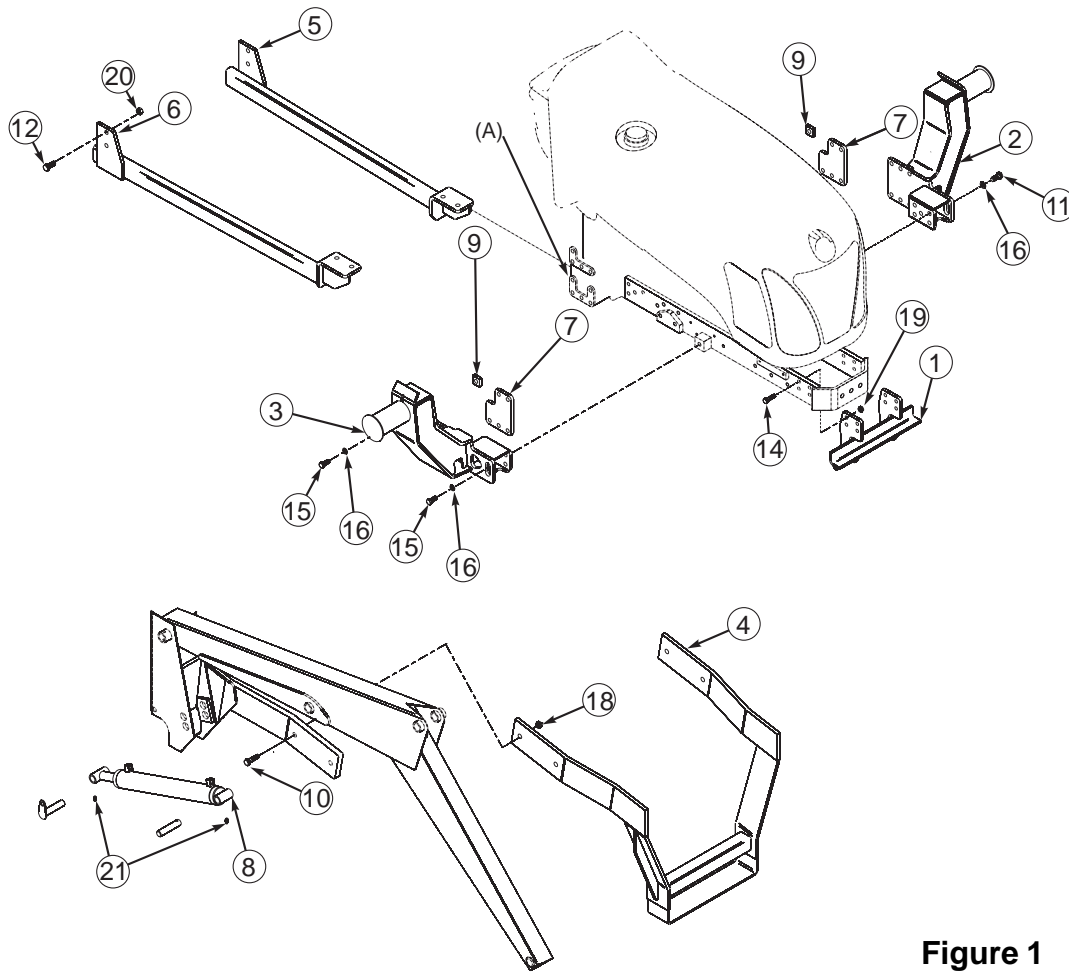

Figure 1
## INSTALLING LEFT AND RIGHT MIDMOUNTING BRACKETS AND FRONT MOUNT BRACKET (FIGURE 1)
1. Install front mounting bracket (1) to sides of tractor front frame using 1/2" x 1-3/4" cap screws (12), and 1/2" locknuts (13).
**NOTE:** Use 1/2" x 3-1/4" cap screws (13), instead of 1/2" x 1-3/4" cap screws (14), if grille guard is installed.
2. Remove lower 16MM cap screw securing oil line bracket (A) to mounting pad on right side of tractor. (Figure 1)
**NOTE:** If tractor is equipped with New Holland loader valve, small spacer (7) is not used for right mid mounting bracket (3). Oil line bracket sandwiches to inside of right mid mounting bracket (3), taking place of spacer. Lower 16MM bolt must be removed before installing mid mounting bracket (3).
3. Raise right mid mounting bracket (3) with overhead hoist. With valve bracket or spacer (7) sandwiched between, fasten right mid mounting bracket (3) to tractor casting using 16MM x 60MM cap screws (15) and 5/8" lock washers (16) in rear four holes and 5/8" x 2-1/2" cap screws (10), 5/8" flat washers (17), and 5/8" hex lock nuts (19) in two frame holes.
4. Raise left mid mounting bracket (2) with overhead hoist. Attach left rear mounting bracket (2) to tractor casing sandwiching spacer plate (7) between. Use 16MM x 60MM cap screw (15) and 5/8" lock washers (16) in rear holes and 5/8" x 2-1/2" cap screws (10) and 5/8" flat washers (17) in two frame holes.
5. Attach rear brackets (5 & 6) to mid mounting brackets (2 & 3) and mounting ears on rear axle housing with 5/8" x 1-3/4" capscrews (14) and 5/8" hex lock nuts (19).
3. Install lift cylinders (8), with base end toward boom and hydraulic ports toward top, using hardware previously removed. See chart for optional cylinder placement.
**MOUNTING LOADER TO TRACTOR (Figures 1, 3, 4, 5, 6, 7 & 8)**